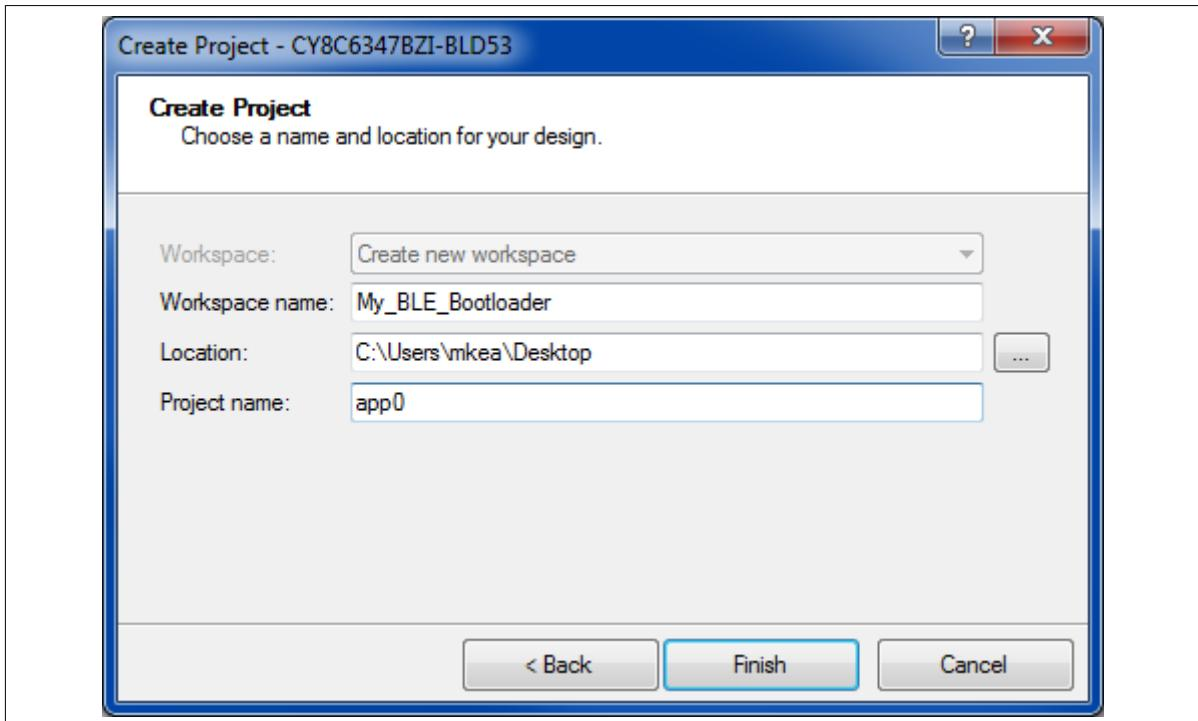

Figure 586 PSoC™ Creator create BLE bootloader App0
1. Create App0 and the workspace, as Figure 586 shows
- Create App0 and the workspace, as Figure 586 shows